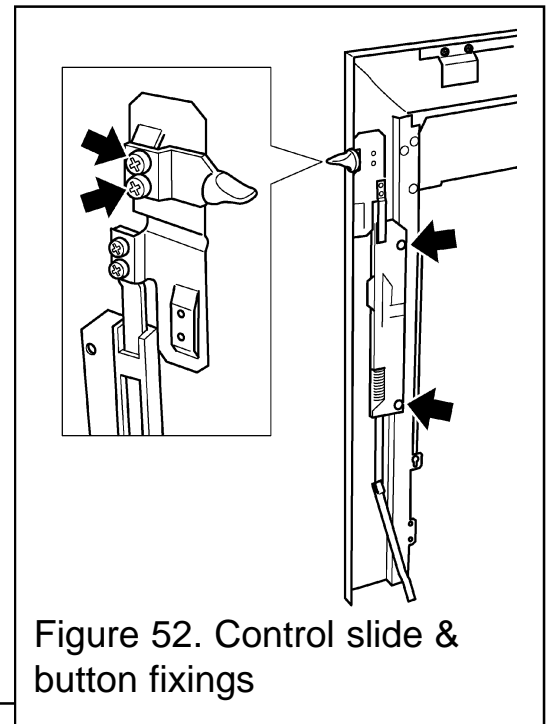

Figure 52. Control slide & button fixings
2. Detach the slide unit by removing two screws securing the plastic slide mechanism to the rear of the fascia – See figure 52.
3. Detach the slide button by removing two screws (See figure 52).